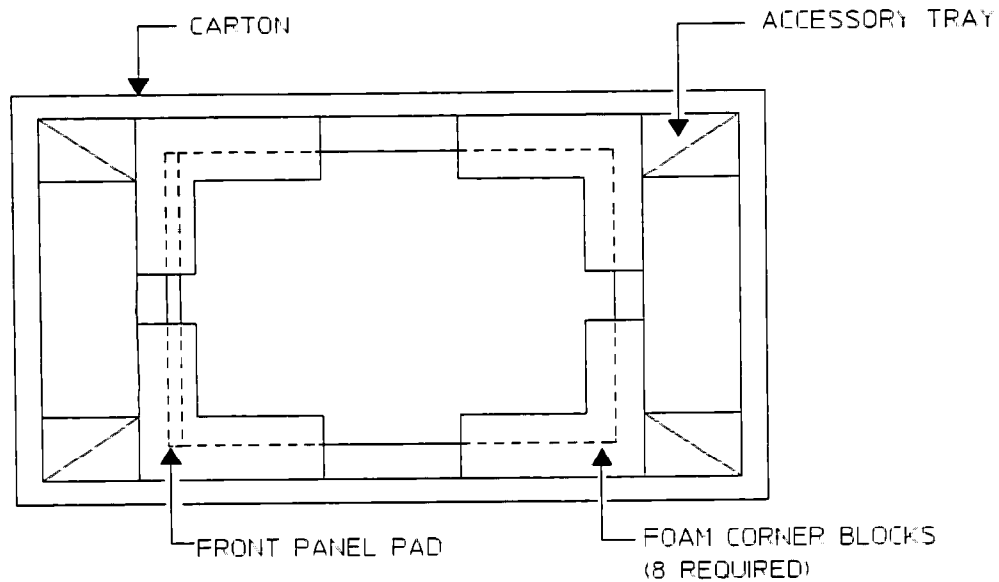

Figure 2-7. Repacking for Shipment
- Containers and materials identical to those used in factory packaging are available through Hewlett-Packard offices, see figure 2-7. If the instrument is being returned to Hewlett-Packard for service, attach a tag describing the type of service required, the return address, model number, and full serial number. Also, mark the container **FRAGILE** to ensure careful handling. In any correspondence, refer to the instrument by model number and full serial number.